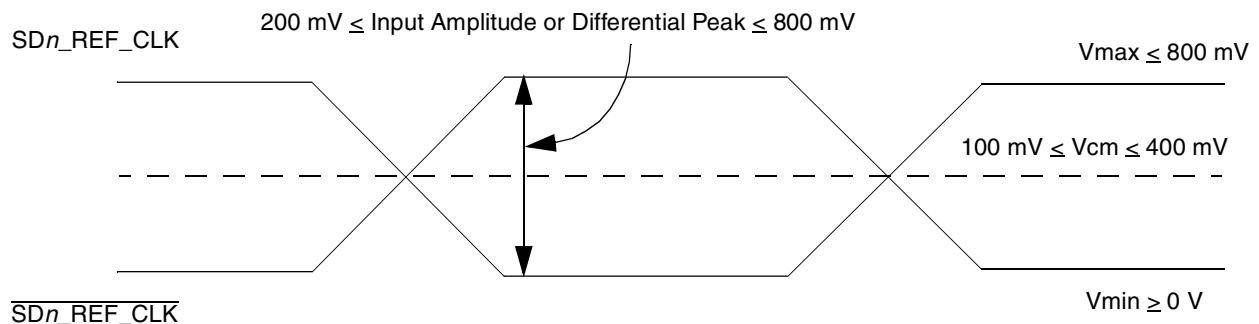

Figure 59. Differential Reference Clock Input DC Requirements (External DC-Coupled)
- For **external DC-coupled** connection, as described in Section 2.20.2.1, “SerDes Reference Clock Receiver Characteristics,” the maximum average current requirements sets the requirement for average voltage (common mode voltage) to be between 100 mV and 400 mV. Figure 59 shows the SerDes reference clock input requirement for DC-coupled connection scheme.